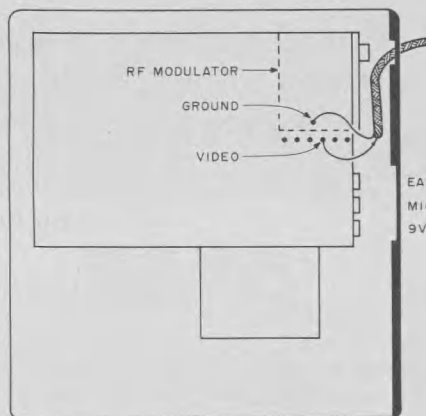

Fig. 2. Connecting the wires to the computer.
4) Connect the wires to the computer (refer to Fig. 2). There are six dots arranged on the board along the edge of the rf modulator. Three have wires already soldered to them from the underside of the board; the remaining three may be dots of solder or small open holes.